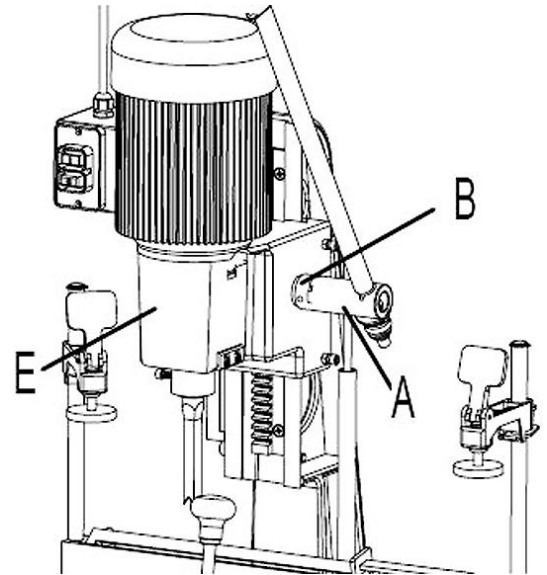

Fig 6
The head (A) Fig.6, is raised and lowered by means of the lever (B). For maximum leverage during the mortising operation, the lever (B) can be repositioned by pulling out the hub (A) of the lever assembly and repositioning hub on the pinion shaft.